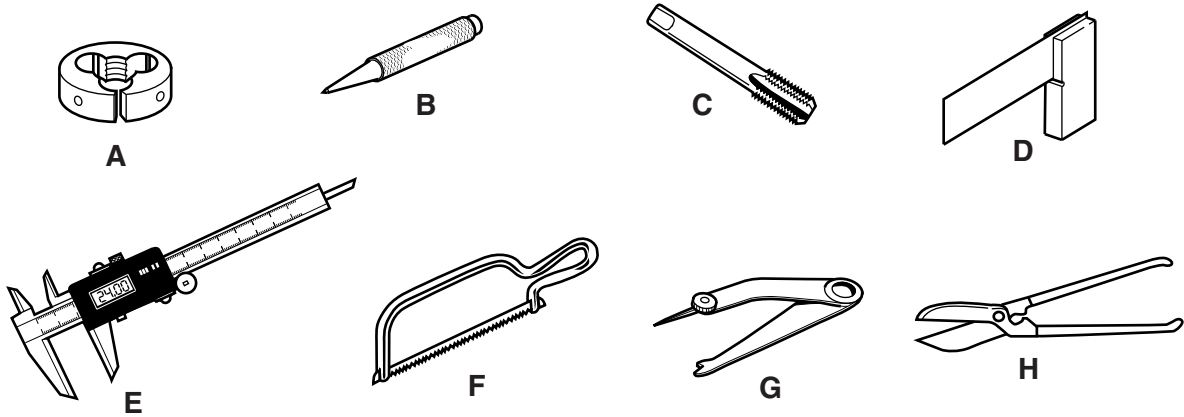

Fig. 3
- 17 Fig. 3 shows a number of hand tools used in a school workshop.